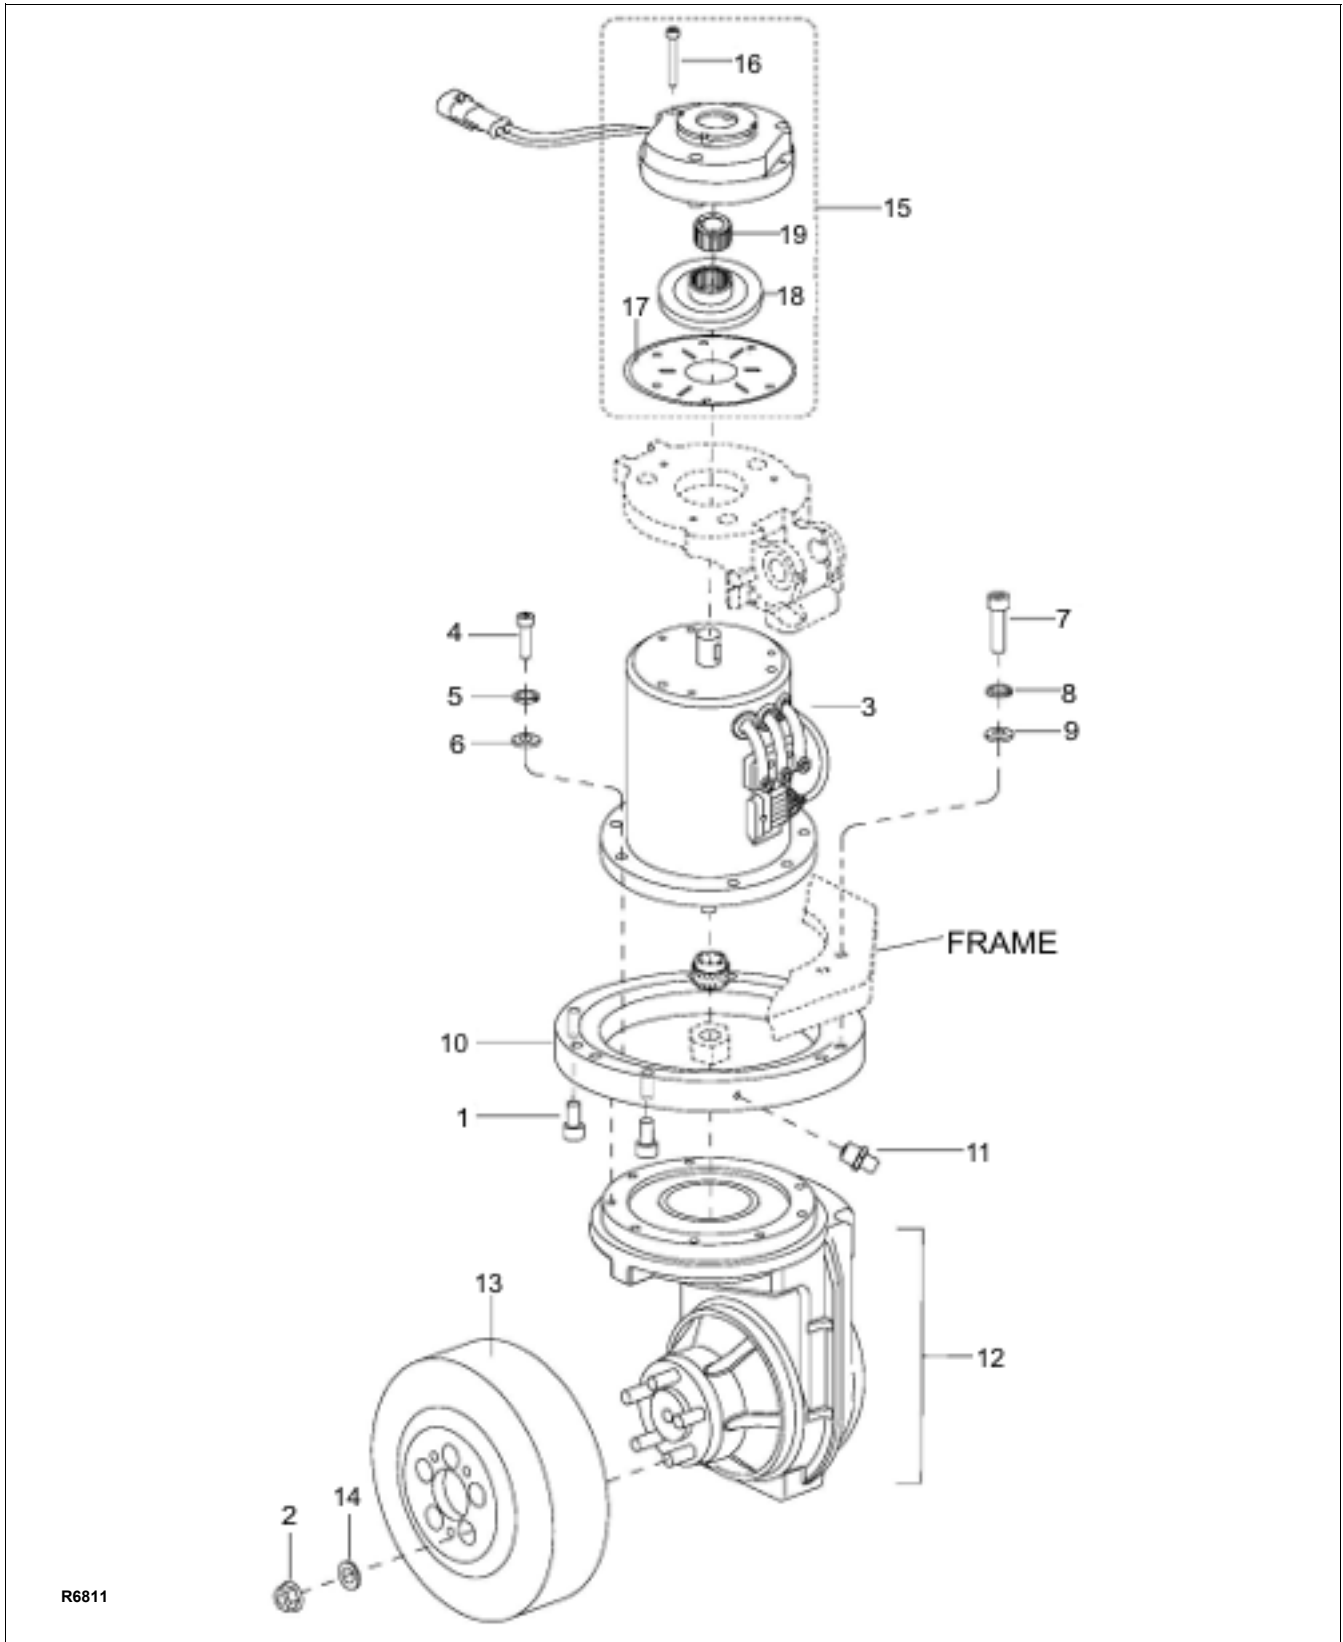

Figure 10-3 Transmission, Motor, Brake Assembly
3. Remove the eight screws (7, Figure 10-3), eight lock washers (8) and eight flat washers (9).
4. Lift motor (3) from transmission (12).
1. Position key gear on the shaft of motor (3, Figure 10-3) and secure with the mounting nut.
4. Reinstall the eight screws (7, Figure 10-3), eight lock washers (8) and eight flat washers (9) to secure the motor to the transmission.